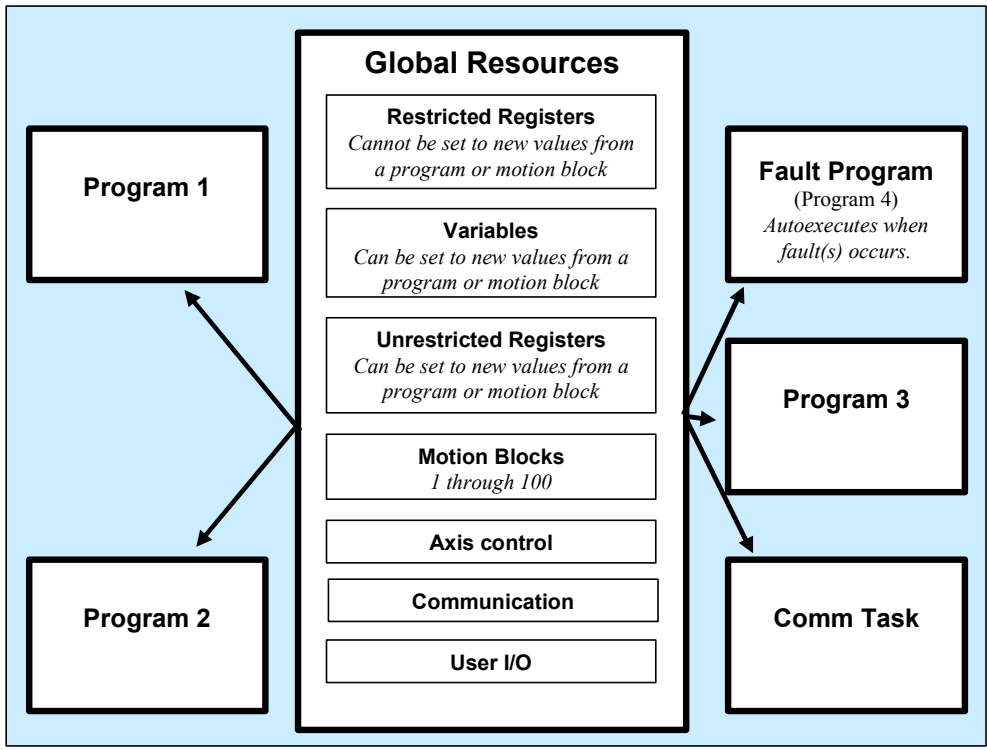

Figure 5-1. Structure of the S2K Real-Time Operating System
- Discipline yourself to use global resources (see Figure5-1) in blocks that are unique to individual programs or motion blocks. This practice avoids interactions between programs or motion blocks that could load a variable or register with a value that is nonconforming in another program. An example of this practice would be to use integer variables 1-49 in program 1, 50-99 in program 2, and so forth.